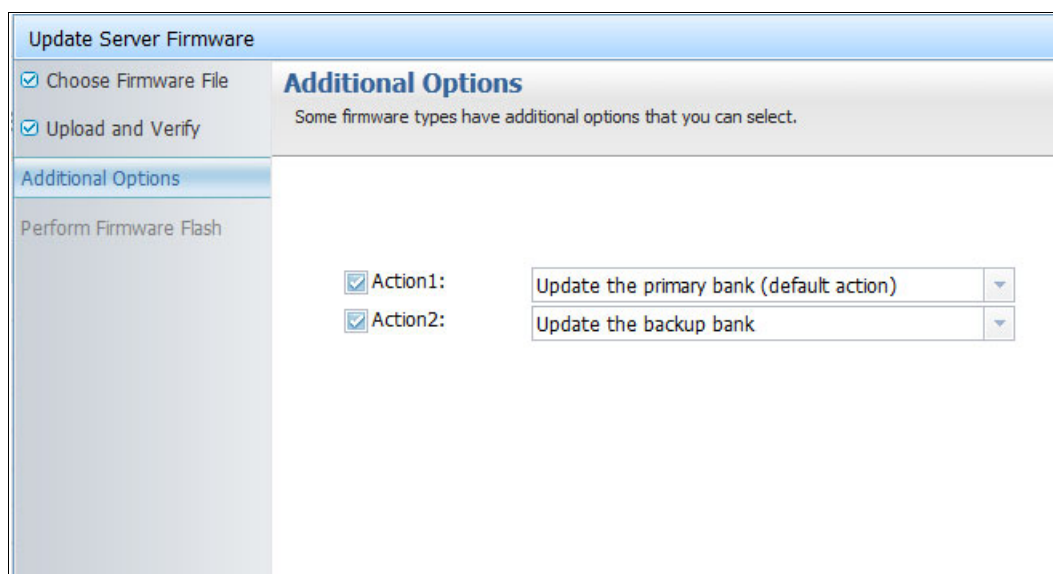

Figure 6-24 IMM Firmware Action panel
4. After the file is verified to be the level that you require, click **Next** to open the Additional Options panel, where you can choose the action, as shown in Figure 6-24: